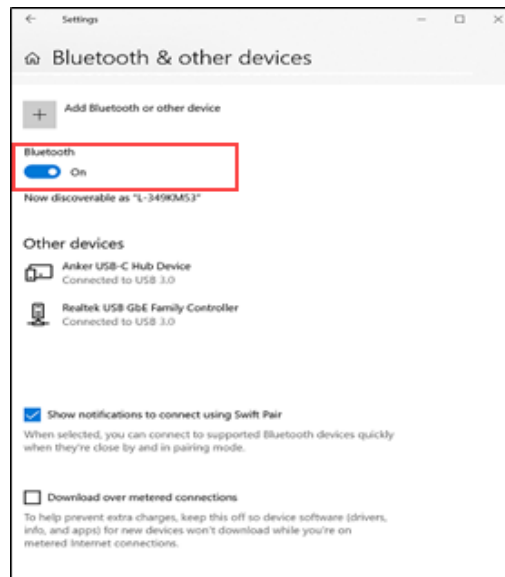

Figure 5: Win 10 Bluetooth Options
1. Slide the **Bluetooth** switch to the **ON** position in the Windows Bluetooth – Settings (see **Figure 5**).